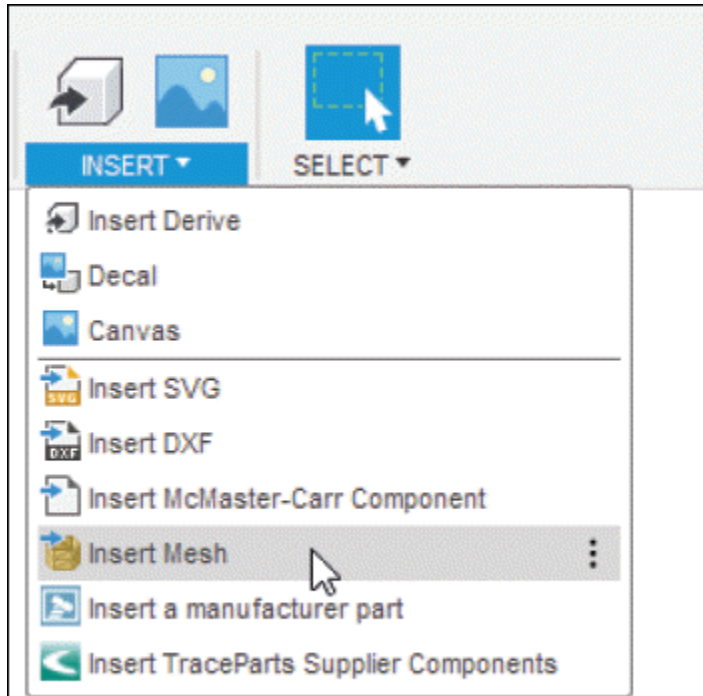
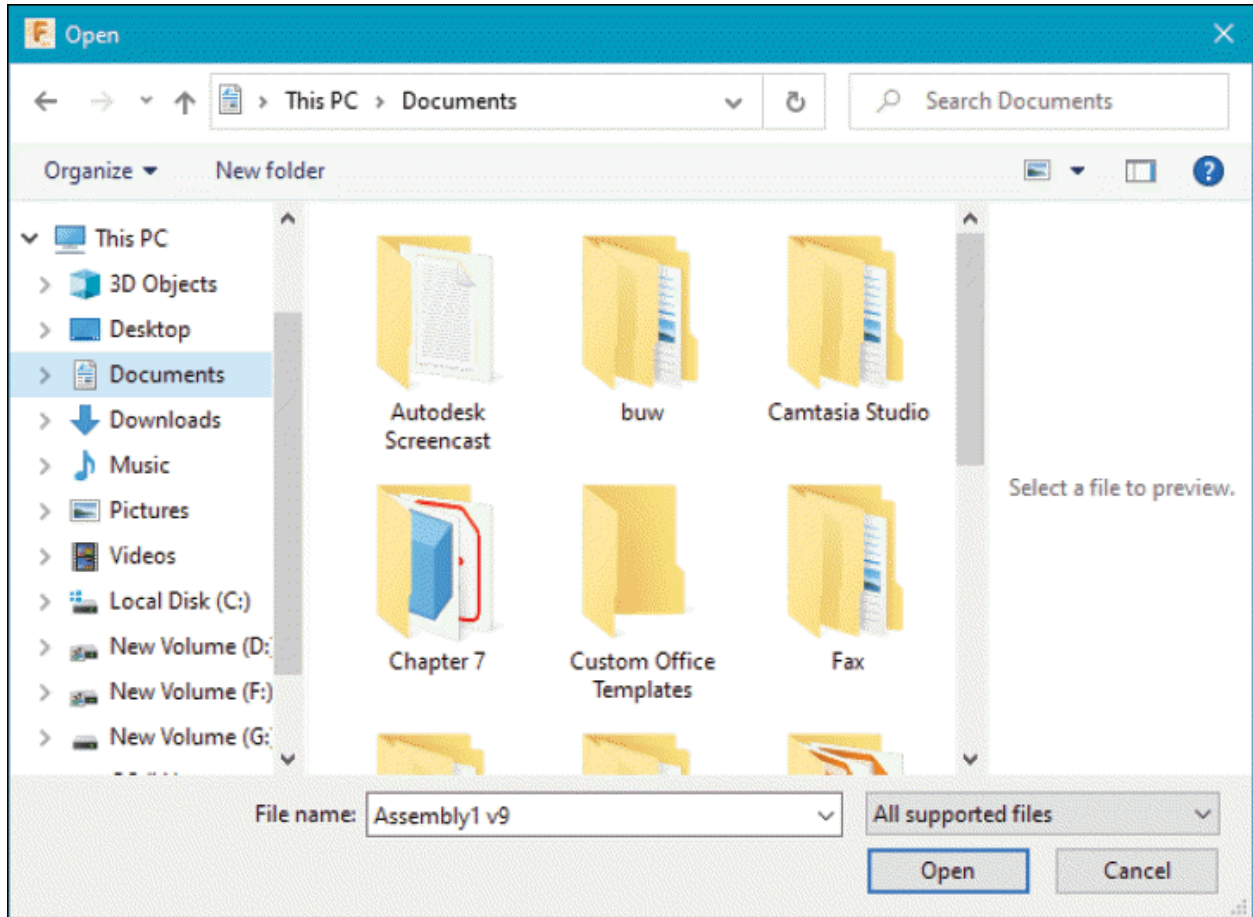

Figure-25. Insert Mesh tool
Figure-26. Open dialog box for inserting file
- Click on the **Insert Mesh** tool of **INSERT** drop-down from **Toolbar**; refer to Figure-25. The **Open** dialog box will be displayed; refer to Figure-26.